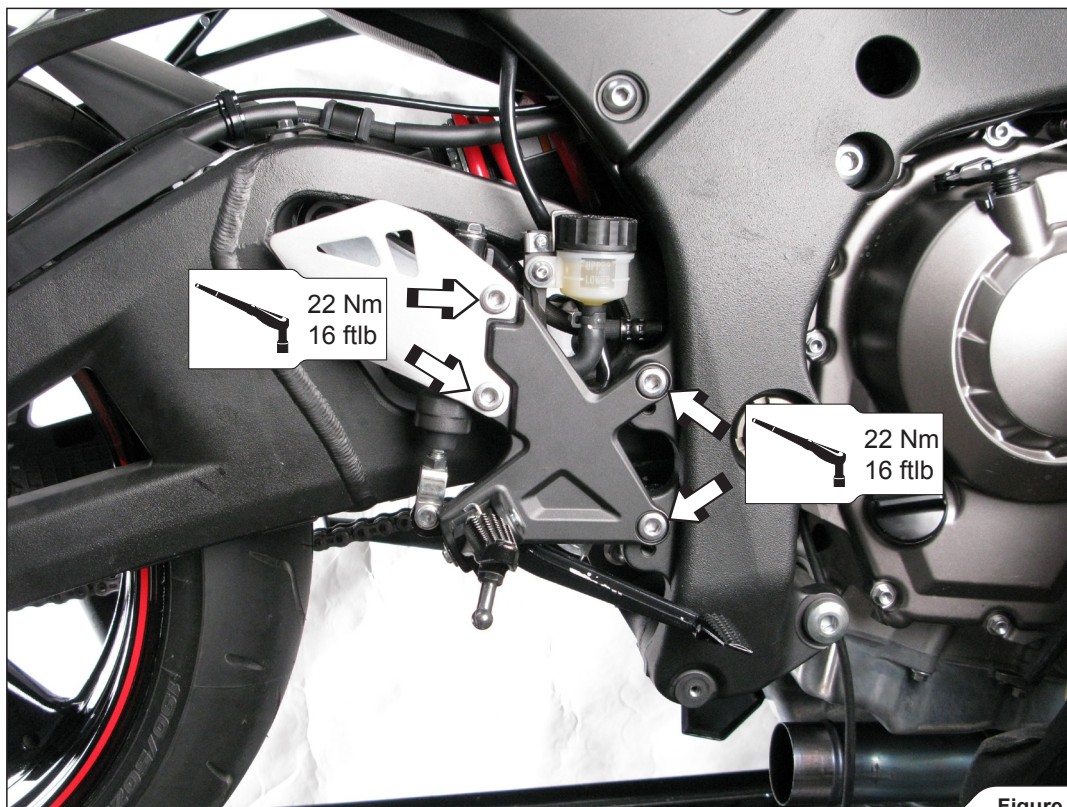

Figure 9
1. For optional link pipe only: assemble the foot peg and foot guard back onto the frame (Figure 9).